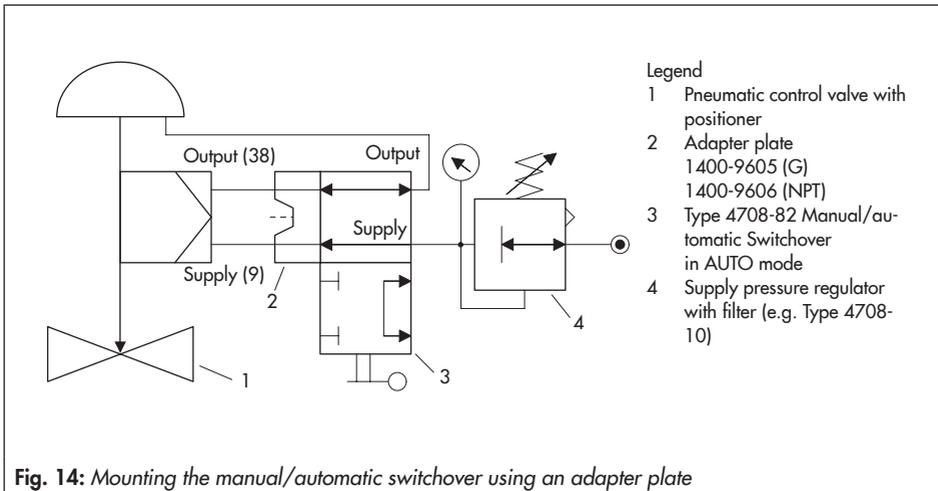

Fig. 14: Mounting the manual/automatic switchover using an adapter plate
The manual/automatic switchover unit is mounted directly onto Types 376x, 378x and 373x (Fig. 14) or on an adapter plate with hook-up to the actuator (Fig. 13).
- Insert flat gasket into recess of the manual/automatic switchover unit (Fig. 14).